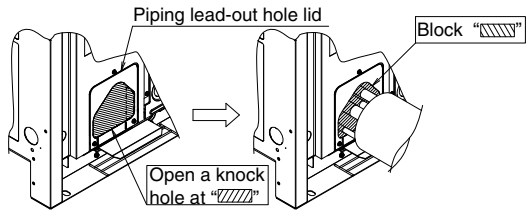

figure 11
- The piping lead-out hole lid should be attached after opening a knock hole. **(Refer to figure 11)**
- After knocking out the holes, we recommend you remove burrs in the knock holes (See figure 11) and paint the edges and areas around the edges using the repair paint.